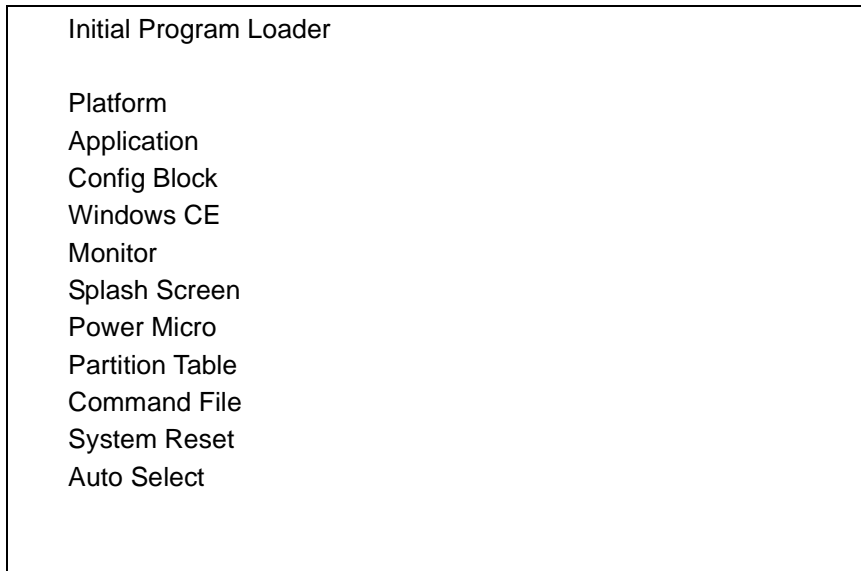

Figure 7-9 Initial Program Loader (IPL) Menu
18. To exit IPL, select the **System Reset** item from the IPL menu (see Figure 7-9 on page 7-11).